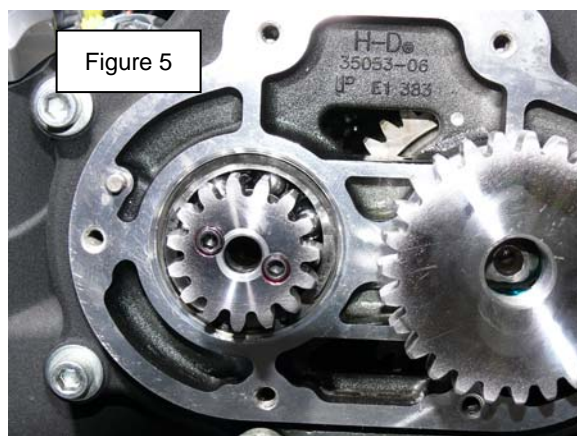

Figure 5
3.13 Apply the green thread locking compound (supplied) to counter shaft threads and screw the large gear onto the counter shaft. Figure 5